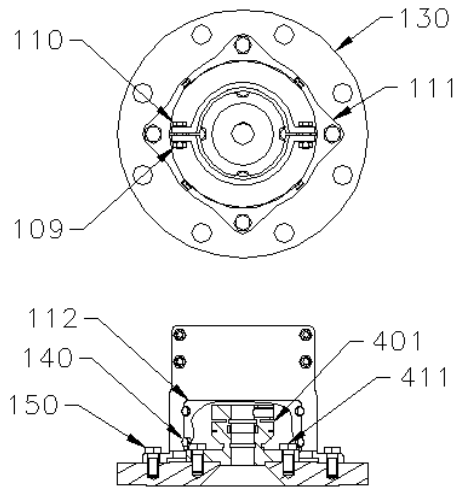

FIGURE 7
2.9 "S" Units – Closed Tank, Flange Mounted Mechanical Seal Module - The mixer housing module mounts in the bore of the Pedestal (111) and is secured by tightening the four hex head cap screws (110) and hex nuts (109). The pedestal (111) bolts to the mounting flange (130) with four hex head cap screws (150). Tank contents are sealed off by the flange mounted **LIGHTNIN** Mechanical Seal (401). Access to the **LIGHTNIN** Mechanical Seal (401) is achieved by removing the eight hex head cap screws (140) then removing the two safety covers (112). Refer to Figure 7. Assemble the **LIGHTNIN** Mechanical Seal as follows.